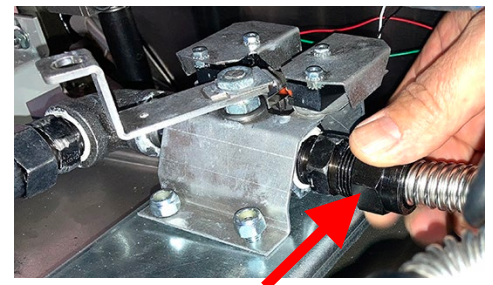

Figure 40
39. Attach the flex line from the 1088450 rear dispose assy to the rear of dispose valve assy (see Figure 40).